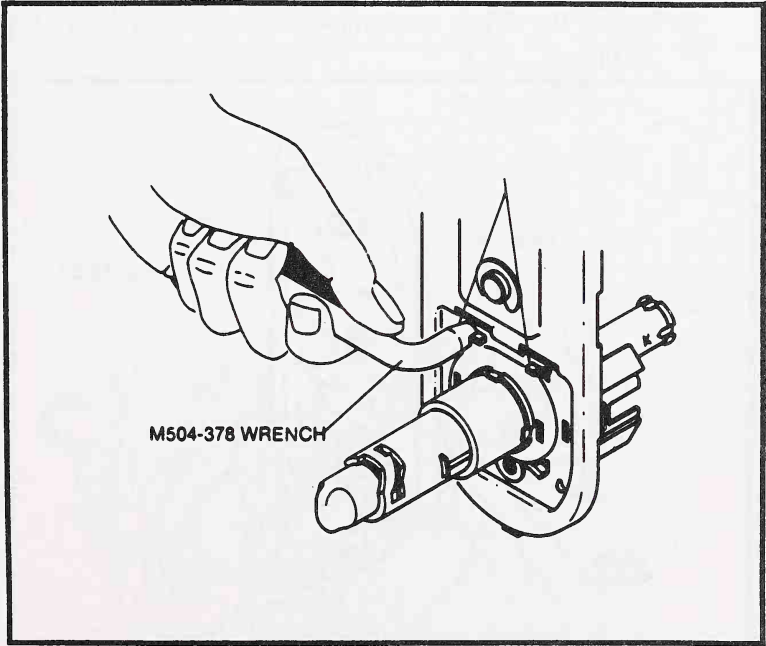

Fig. 18-52.
4. With a factory-supplied wrench or long-nosed pliers, straighten the tabs (Fig. 18-52).